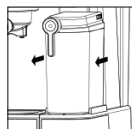

Fig. 1
- Take the container (11) and pull it towards you (fig. 1), remove the cappuccinator lid (12) from the container (11) (fig. 2). Fill the container (11) with water to the maximal level mark.